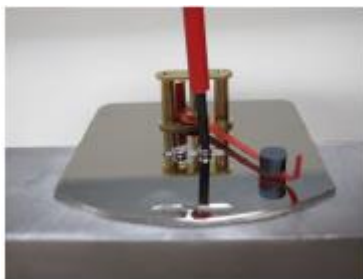

Fig. 40
5. ► Loosen fixing screws of the display base plate (Fig. 40) and remove the display base plate.